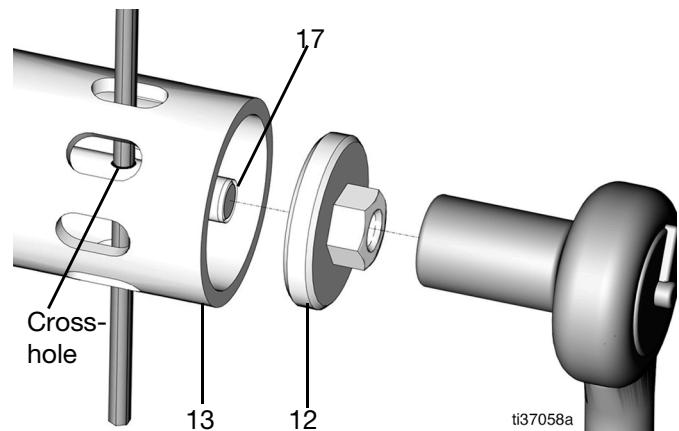

FIG. 64
22. Push pump rod (27) down to move the shovel rod (17) down to access the cross-hole (FIG. 64).
23. Place an Allen wrench or similar tool through the slot of the shovel tube (13) and into the exposed cross-hole to keep the shovel rod (17) steady (FIG. 64).
24. Tighten the shovel piston (12) with a 10 mm socket wrench (torque 3-4 ft-lb/4.1-5.4 N•m) (FIG. 64).